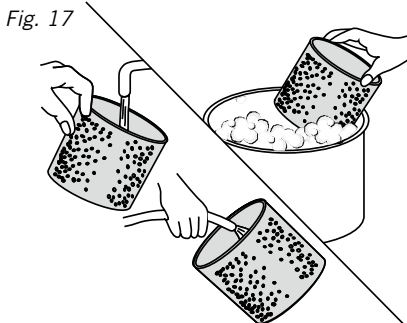

Fig. 17
26. Use a mild soap and water solution to wash the foam wet filter 19 and rinse with clean water. Fig. 17.